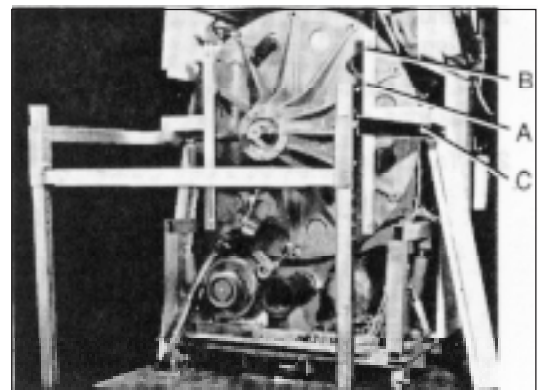

Figure 7. Jig and bracket installed
10. Assemble the jig according to figure 7. Check that the jig is as horizontal as possible.
11. Attach the brackets to the rear gable, A in figure 7. Spacer sleeve, B in figure 7, should be positioned between the bracket and the gable.
12. Adjust the jig so that the brackets are butting against the jig, see position C 1, figure 7.